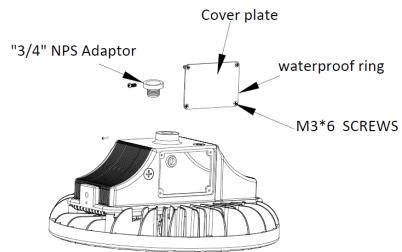

Fig .12
- Find the 3/4" NPS adaptor and locknut from accessory bag as Fig. 12 shows (Pipe is not provided. Please choose a proper pipe with 3/4" NPS thread), install the 3/4" adaptor on fixture.